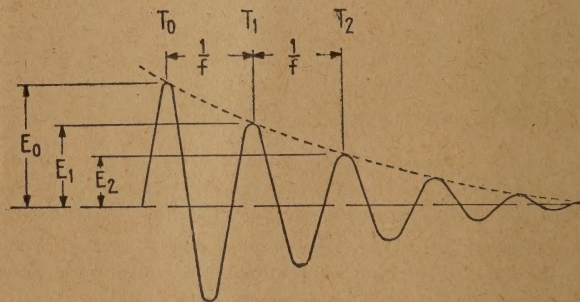

Fig. 2.
This system is illustrated in Fig. 2, where the amplitudes are shown for E_0 , E_1 , and E_2 . By using a great enough number of cycles, the accuracy of measurement can be made as great as we please, assuming that the oscilloscope picture can be measured accurately enough. For example, if we measure the drop in amplitude at the 40th cycle, and if our measurement of length can be made to within 1 per cent., we will obtain the value of Q to within 3 per cent. for Q 's up to 200. In addition, we will be able to measure it to within 4 per cent. for values up to 300, and within 5 per cent. for values up to 500. If we use smaller numbers of cycles, the values up to which these accuracies are obtainable will be smaller. For example, if $n=20$, we get 3 per cent. accuracy up to a Q of 100, and so on, in proportion. This is illustrated in the curves of Fig. 6, which are given to enable the calculation from equation (4) to be dispensed with.